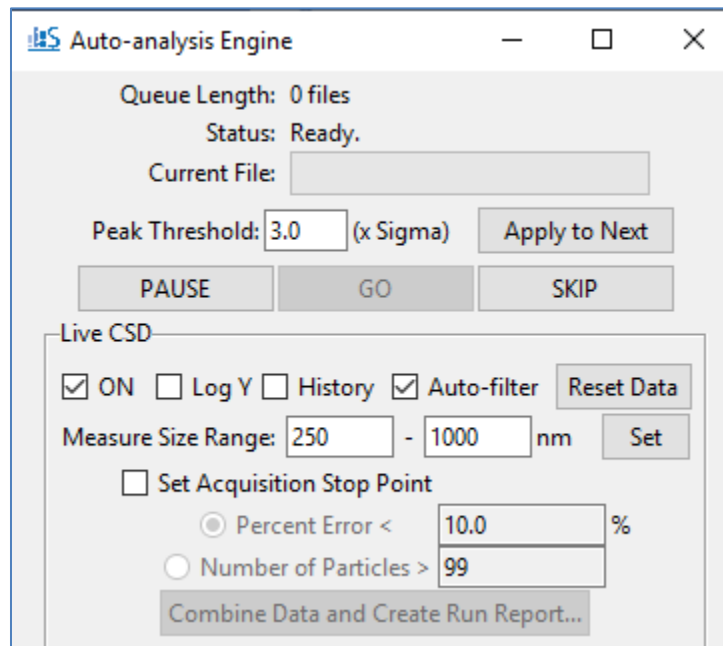

Figure 13. Auto-analysis Engine Interface.
- Display Options (see Figure 13. Auto-analysis Engine Interface.):